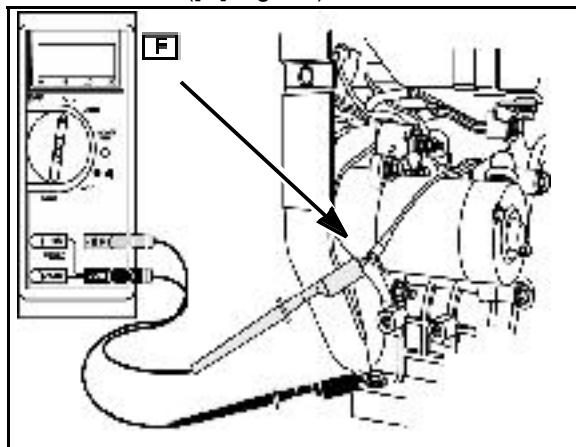

Fig. 31
2. Attach RED test lead clip to green output terminal ([F] Fig. 31).